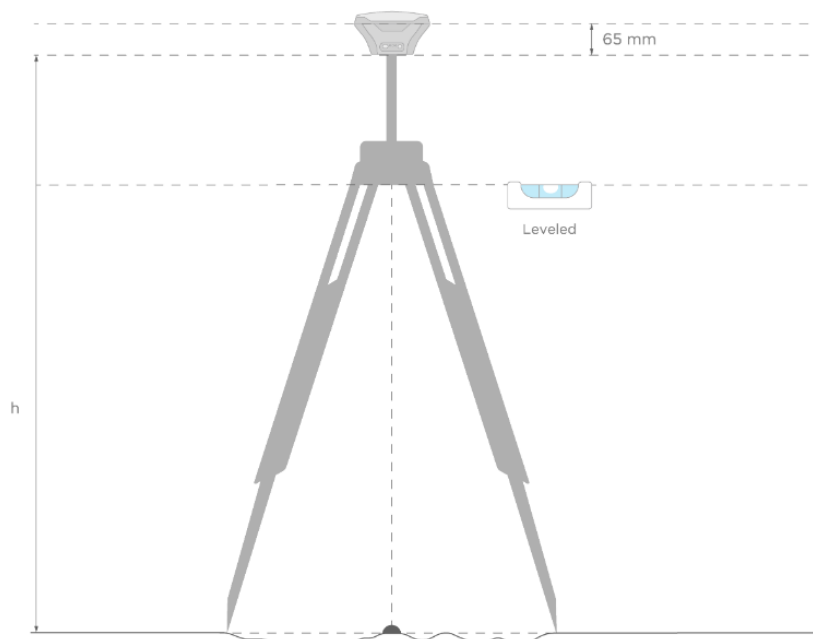

Figure 5
1. Measure the distance between the mark and the bottom of your Reach (h on Figure 5).
**Reach RS/RS+ antenna height:** *For Reach RS/RS+, the antenna height is the distance between the mark and the bottom of the receiver (h on Figure 5) plus the receiver's height to the antenna reference point (ARP) which is equal to 65 mm and automatically added by Emlid Flow.*